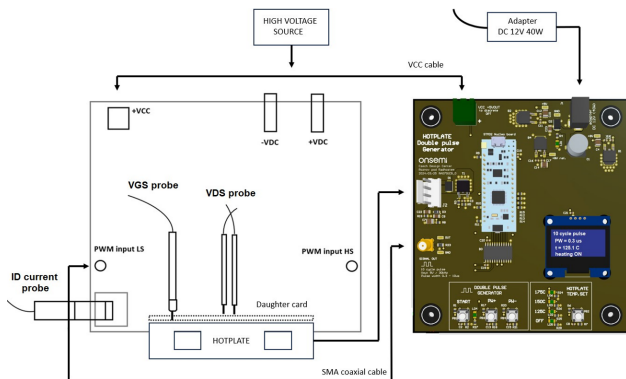

Figure 12. Double Pulse Test Setup for HOT Temperature
- Ensure that setup is fully prepared (check connection of a High Voltage power source, used gate resistors, used Daughter cards, using thermal conducting pad between Hotplate and tested devices, probes connection according to Figure 12 etc.)